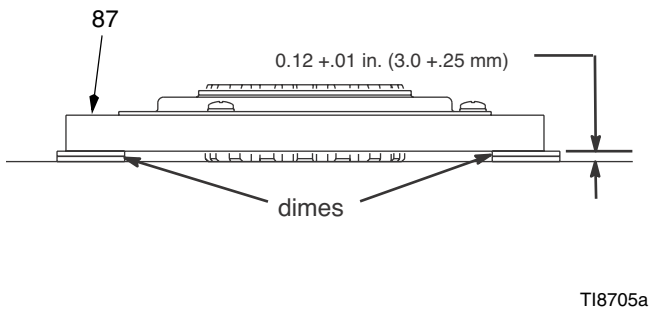

FIG. 8
1. FIG. 8. Lay two stacks of two dimes on smooth bench surface.
2. Lay armature (87) on two stacks of dimes.